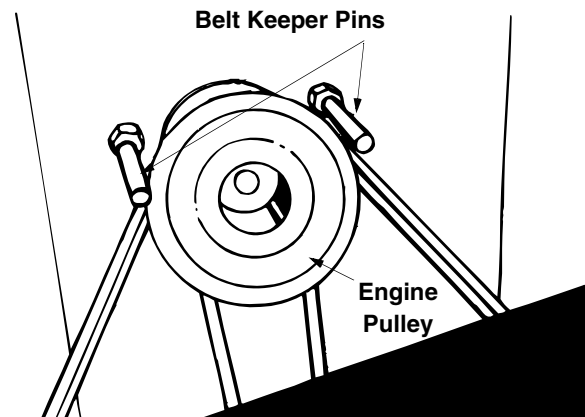

Figure 23
NOTE: Figures 23, 27 and 28 are shown with the unit tipped up for clarity. It is not necessary to tip the unit to remove the belts.
NOTE: When reassembling, make certain belt keeper pins are assembled in the same locations from which they were removed. See Figure 23.
- Remove the belt keeper pins from the lower frame. See Figure 23.
- Remove the belt keeper pins from the engine pulley belt guard. Refer to Figure 23.
NOTE: Make certain belt keeper pins are reassembled as shown in Figure 23.
NOTE: When reassembling, make certain belt is inside the belt keeper pins. See Figure 23.